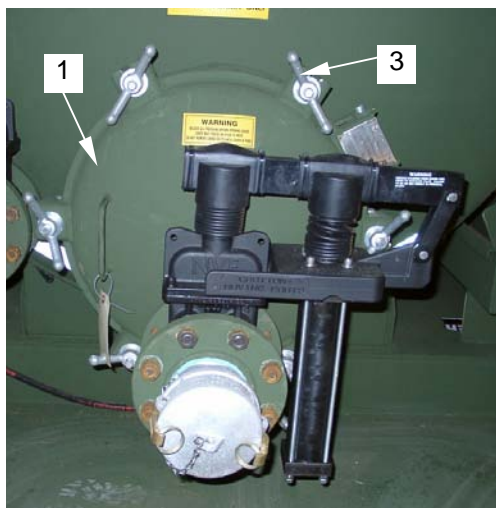

Figure 6. Manway and Primary Shutoff Cover
8. Upon initial startup, apply vacuum seal to rear manway (figure 6, item 1) and primary shutoff cover (figure 6, item 2) by tightening cover access screws (figure 6, item 3) while the tank is empty and vacuum is applied.